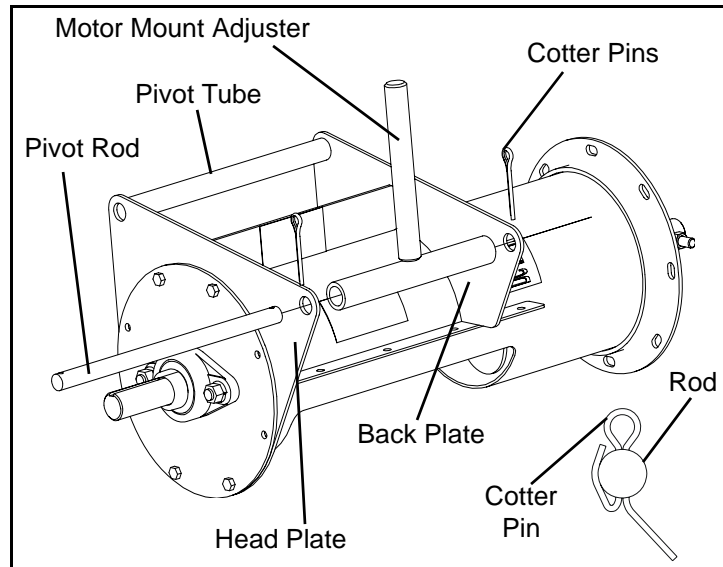

Figure 4E
2. Insert Pivot Rod through the Tube plates and Motor Mount Adjuster. Secure in place with two (2) 3/16" x 2" cotter pins. (See Figure 4E).
Note: Bend all cotterpins to retain parts (See Figure 4E insert).